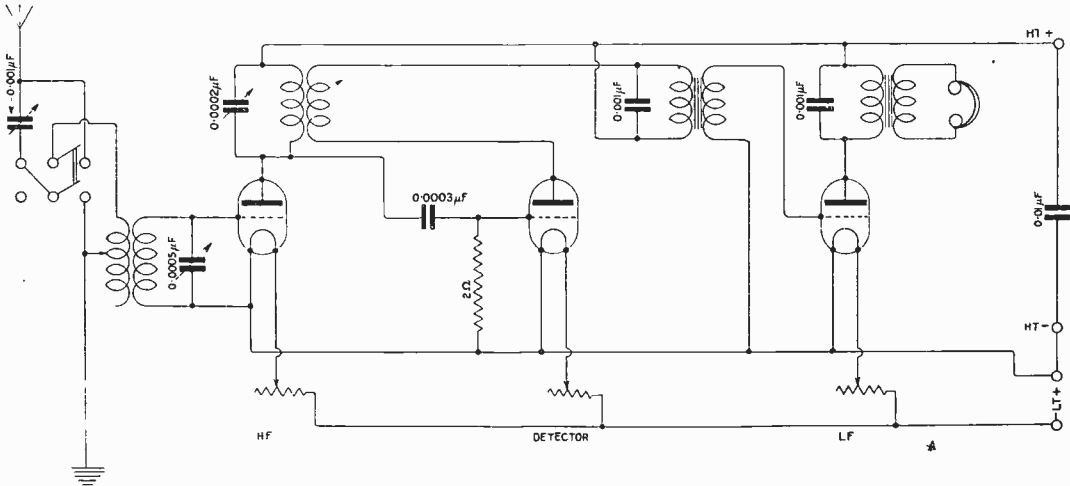

Fig. 2.
"A.F.T." (Burton-on-Trent) asks re Fig. 2, page 507, July 22nd issue, which are the battery terminals, and (2) Who manufactures "Q.X." valves, and from whom they may be obtained.
(1) The terminal at the extreme right-hand upper corner of the panel is the H.T. negative. The terminal immediately below is the L.T. negative, and the terminal below this the L.T. positive. (2) The "Q.X." valve is made by the M.O. Valve Co., Ltd., and can be obtained from most dealers.
"H.C." (Wigan).—(1) The sketch enclosed with your letter shows the reaction coil coupled with the aerial coil. We do not recommend this. We suggest you use a secondary circuit, and couple the reaction coil with the secondary inductance coil Fig. 2. The sketch does not show the L.T. battery connected to the H.T., but this of course is a slip. (2) We cannot calculate the value of your glass plate condenser, because you have not given us the dimensions of the tinplate conductors. The calculation is quite simple, and is fully explained in Coursey's book "The Radio Experimenter's Handbook." (3) No exact dimensions and turns can be given for the construction of honeycomb coils to tune to definite wavelengths, because the inductance of the coils depends greatly upon the method of winding, tightness of winding, etc. We suggest using 30 pegs on each side of the former. About six coils will be required to cover the wavelength range you require. Wind one layer of No. 22 for the smallest coil, and twelve layers of No. 26 for the largest. (4) We see no reason why you should not receive telephony with the set.
(1) As shown the transformer is being added as a note magnifier. We cannot say whether it will be suitable for this. It will not if it is wound as a telephone transformer. (2) Of many possible methods, that of Fig. 2, page 772, September 9th, is very good. (3) This can best be done by trying various voltages and seeing which gives the best results; but in general the H.T. voltage is fixed almost arbitrarily, and the grid voltage adjusted to give the best results with this arbitrary value. (4) Try winding sections of about 25 turns each in heaps on a former 1 $\frac{1}{2}$ " in diameter. Connect these up alternately in the two windings and arrange taps to each section. You will probably want about 200 turns for each winding in all.